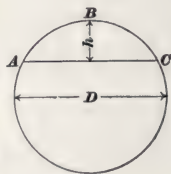

FIG. 49.
**83.** To find the area of a segment of a circle (a **segment** of a circle is the area included between a chord and its arc; for example, the area  $ABCA$ , Fig. 49) when its chord and height are given. There is no exact method, except by applying principles of trigonometry. The following rule gives results that are exact enough for practical purposes.
The rule, expressed as a formula, is as follows, where  $D$  = the diameter of the circle and  $h$  = the height of the segment (see Fig. 49):
**NOTE.**—Had the chord  $AC$ , Fig. 49, been given instead of the diameter, the diameter would have been found as explained in Art. 75.